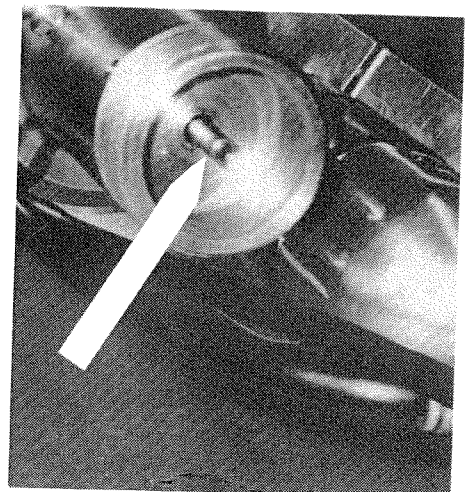

FIGURE 5-11
- E. INSPECT THE SEALING SURFACE OF THE SWIVEL SHAFT, (#2) FOR ANY SCRATCHES OR MARKS, SEE FIGURE 5-11. IF THERE ARE ANY MARKS OR IF SEAL LIFE IS NOT AS EXPECTED THE SWIVEL SHAFT, (#2) SHOULD BE POLISHED OR REPLACED.